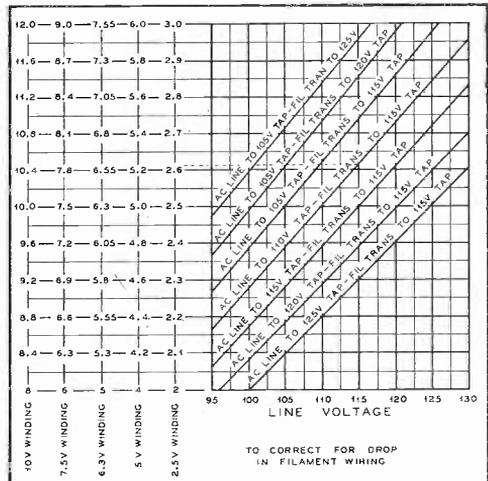

Fig. 3
• The autotransformers may also be used to correct for drop in the filament wiring so that the correct filament voltage is delivered at the tube sockets. For convenience in doing this the curve of Fig. 3 is used.